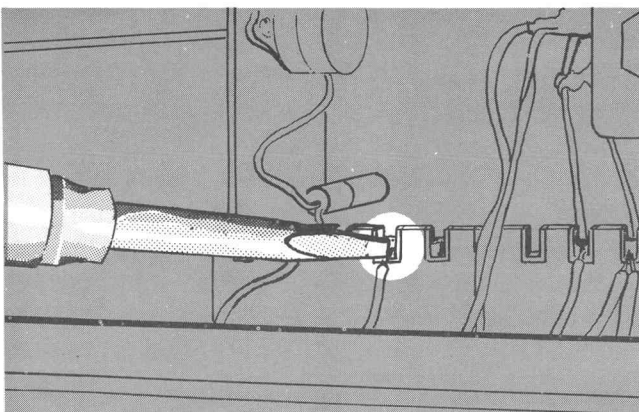

Fig. 3-2. Proper method of applying heat to a ceramic terminal strip.
3. Apply heat to the connection by touching the soldering iron tip to the side at the base of the notch. See Fig. 3-2. Do not apply excessive pressure or wedge the tip of the iron into the notch.